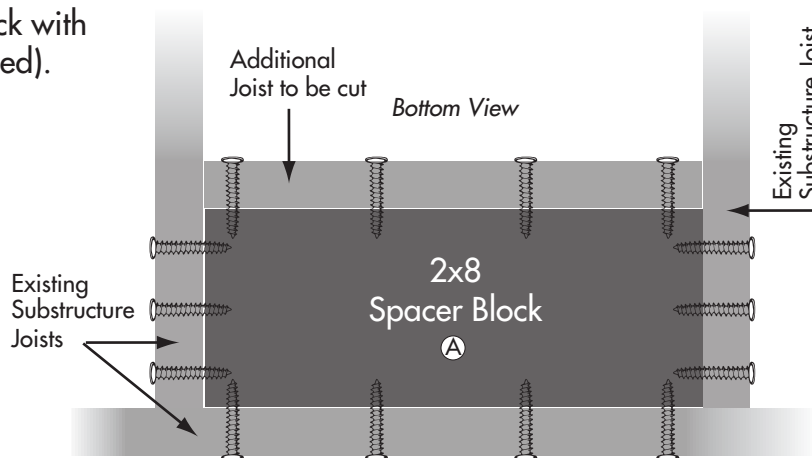

Figure 2
- 3.) Cut a 2x8 wood spacer block (not included) *Figure 2 (A.)* and attach underneath the deck surface to substructure joists directly under the post location with 3" deck screws (not included). Length of the spacer block should be the distance between the existing deck joists.
- 4.) Cut one 2x8 joist (same length as spacer block cut in Step 3) (not included) *Figure 2*. Box in spacer block with this newly cut joist with 3" deck screws (not included).